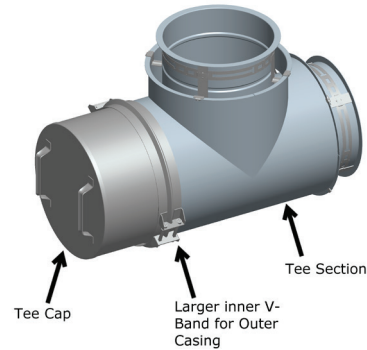

Figure 40c: Step 3-4 for installation of the LDCD TC
Step 4 - Secure with the bigger V-Band (BSI) by tightening the retaining screw. See Figure 40c.